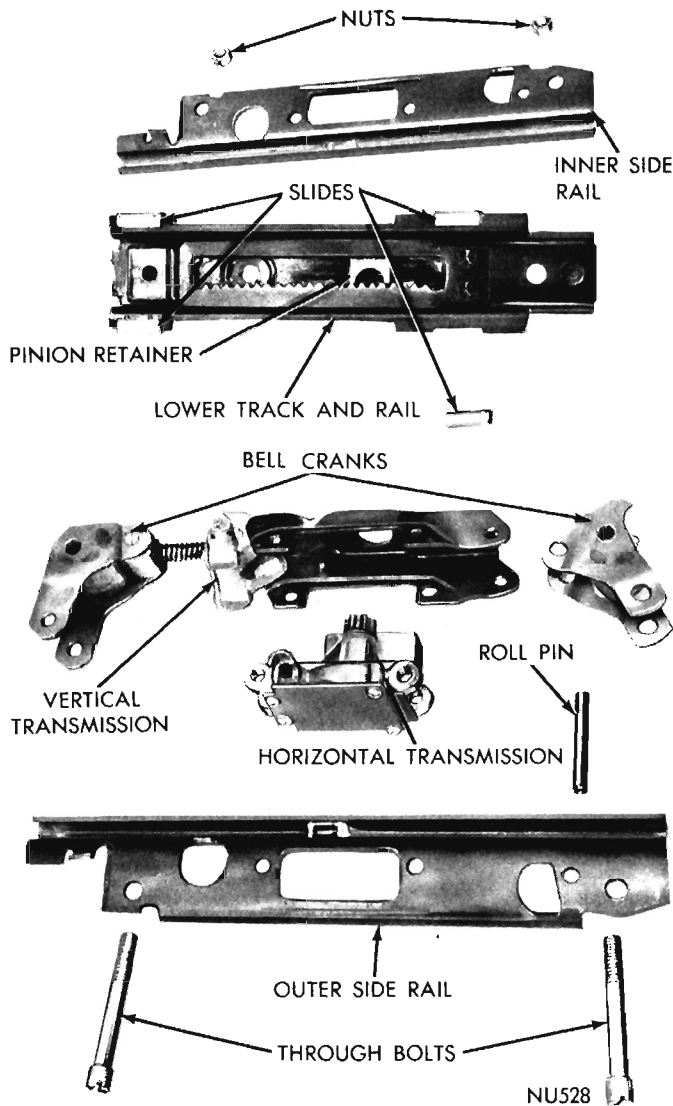

Fig. 6 - Side Rail (Disassembled)
- (1) Remove seat assembly from vehicle following procedure outlined under, "Seat Assembly and Adjuster."
- (2) Remove motor assembly following procedure outlined under, "Motor."
- (3) Fasten a 10 inch "C" clamp from the mounting base assembly to the upper channel assembly just tight enough to keep it in place while removing cotter key and the front (5/16 inch) clevis pin.
- (4) After clevis pin is removed slowly release the tension on the vertical spring.
- (5) Remove cotter key and rear (3/8 inch) clevis pin and upper channel assembly.
- (6) Remove horizontal spring.
- (7) Remove the through bolts from each end of the side rail assembly.
- (8) Remove the through bolts from the transmission assemblies and separate rails and transmission assemblies (Fig. 6).